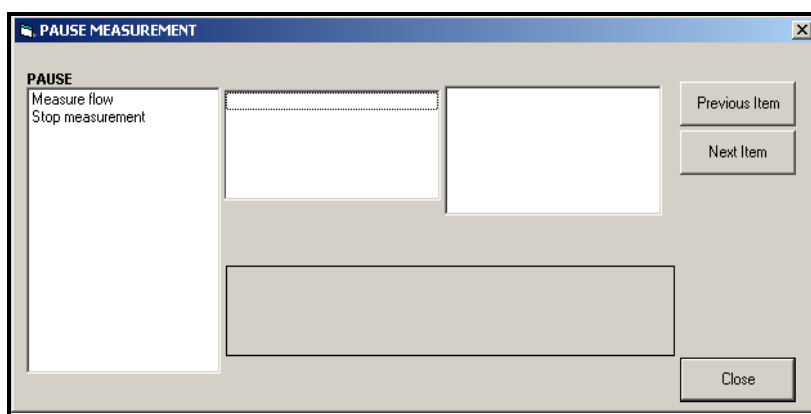

Figure 19: The *Pause Measurement* Window
2. Expand the *Edit Functions* option, and double-click on the *Pause Measurement* entry. A window opens similar to Figure 19.